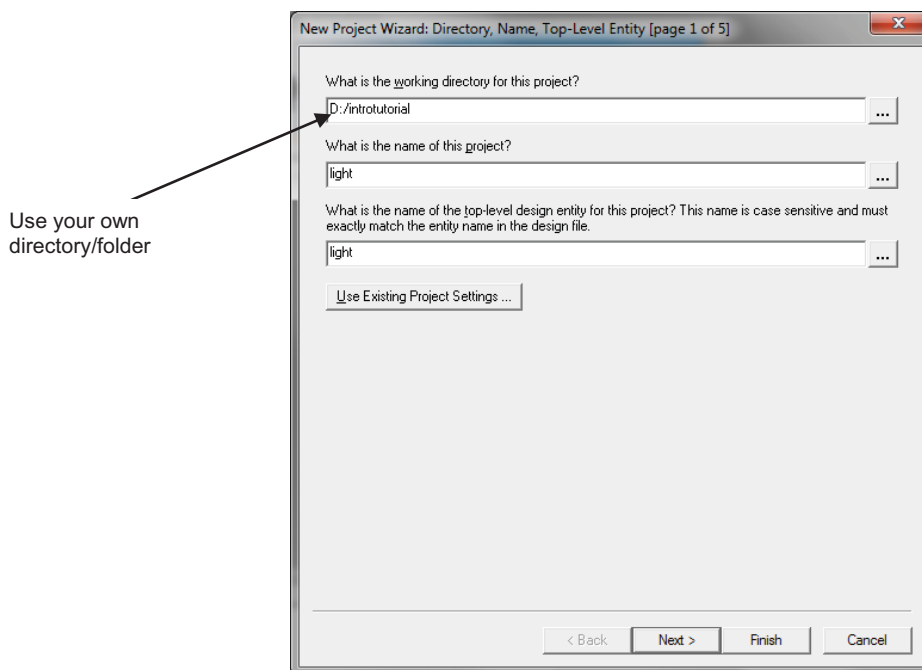

Figure 4. Creation of a new project.
1. Select **File > New "Quartus II Project" Wizard** to reach the window in Figure 4, which asks for the name and directory (folder) of the project.
2. Set the working directory to be *introtutorial*; of course, you are advised to use some other directory such as Z: if working in the lab on a networked systems, or C: if you prefer. The project must have a name, which is usually the same as the **top-level design entity** that will be included in the project. Choose *light* as the name for both the project and the top-level entity, as shown in Figure 4. Press **Next**.
In the box labeled **Save as type** choose **Block Diagram/Schematic File (\*.bdf)**. In the box labeled File name type *light*, to match the name given in Figure 4, which was specified when the project was created. Put a checkmark in the box **Add file to current project**. Click **Save**, which puts the file into the directory *introtutorial* and leads to the Graphic Editor window displayed in Figure 14.